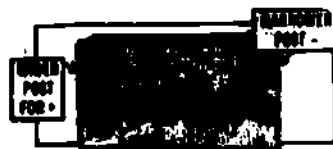

Fig 1-66. Battery post designation and difference in diameter.
- **Battery post(s).** To avoid a reverse hookup, the battery post(s) are different. The positive post is larger in diameter than the negative post (fig 1-66). Both posts are normally identified in the same manner as the battery clamps, which is a symbol designating "+" or "-". If these symbols are not used, the letter "N" (negative) or "P" (positive) may be used instead. In some cases the post may not be marked but the battery case itself will have a designation as to which post it is. Battery posts can become loose if the correct procedures are not followed when you are putting on or taking off the battery clamps.